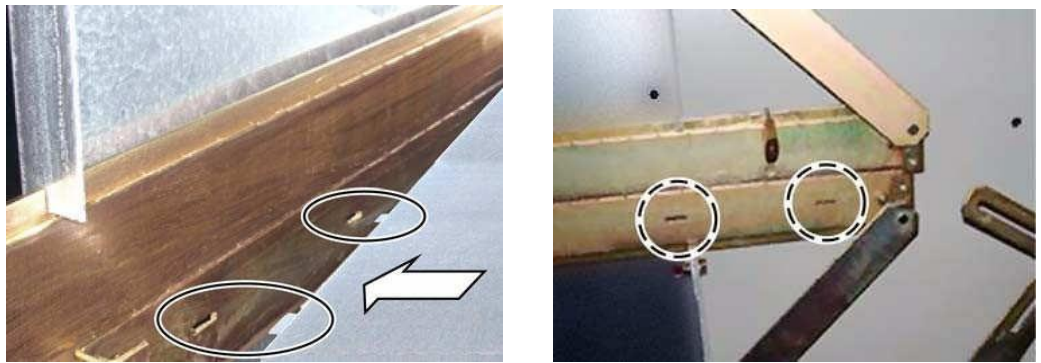

Fig63. Slots at the left and right hand sides of shutter mechanism
- ⇒ Insert the lower shutter opening tool at the left side by meeting the two slots in the lower shutter arm with the lugs (fig63 and 64).